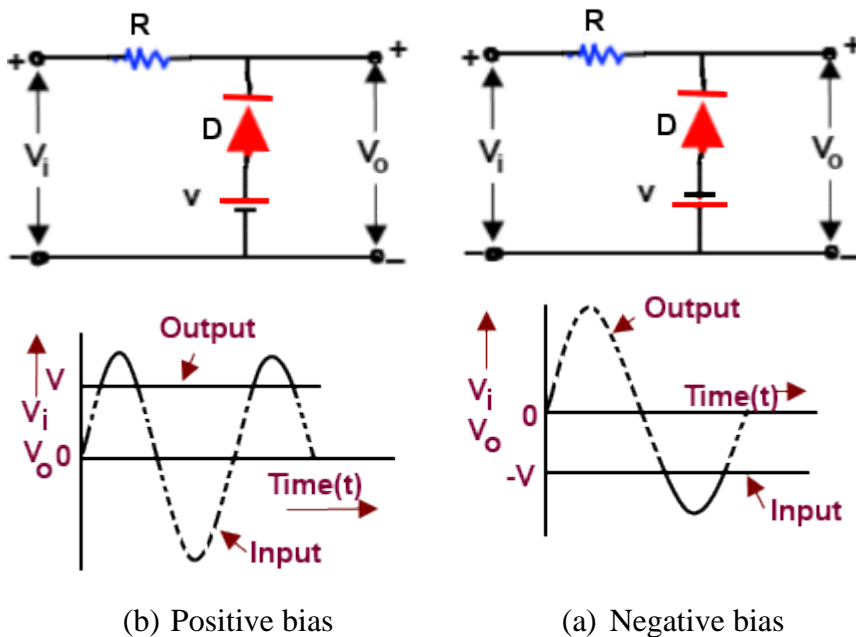

Figure 2.22: Biased Shunt/Parallel Negative Clipper
- ✓ If the polarity of the bias voltage is reversed, then the resulting circuits will be as shown in Figure 2.22 (b). Here the entire signal below the voltage level V_{II} has been clipped off.